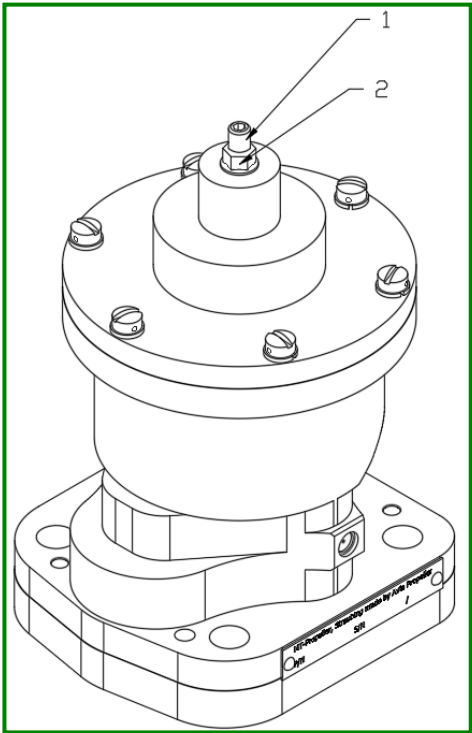

Figure 16
5.6.3 Max RPM stop screw adjustment of P-860-161 governor (see Figure 16)